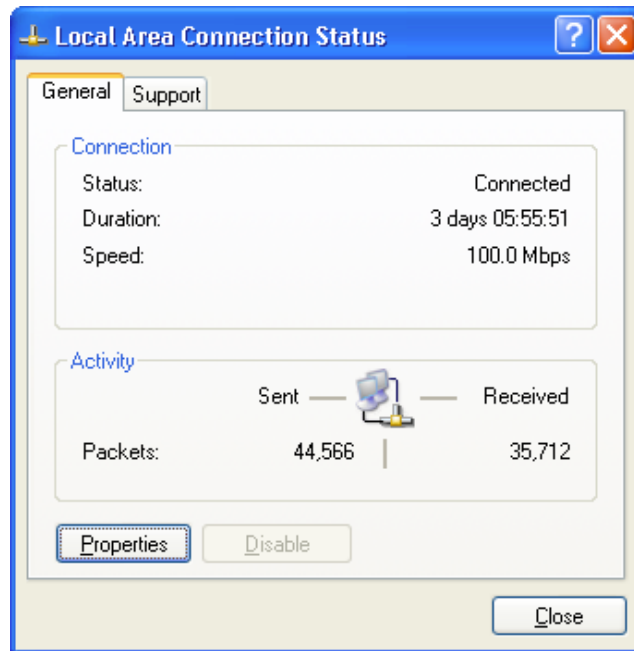

Figure 4. The Local Area Connection Status Dialog
2. In the panel labeled **LAN or High-Speed Internet**, double-click the **Local Area Connection** icon. The **Local Area Connection Status** dialog box appears, as shown in Figure 4.
- Enter values for the IP address and subnet mask to match those shown in Figure 4. Leave any remaining fields blank. In this example, an IP address of 192.168.1.21 and a subnet mask of 255.255.255.0 are being assigned to the PC. These values place the PC on the same network as the ZPAKII unit, and do not conflict with the IP address of ZPAKII.